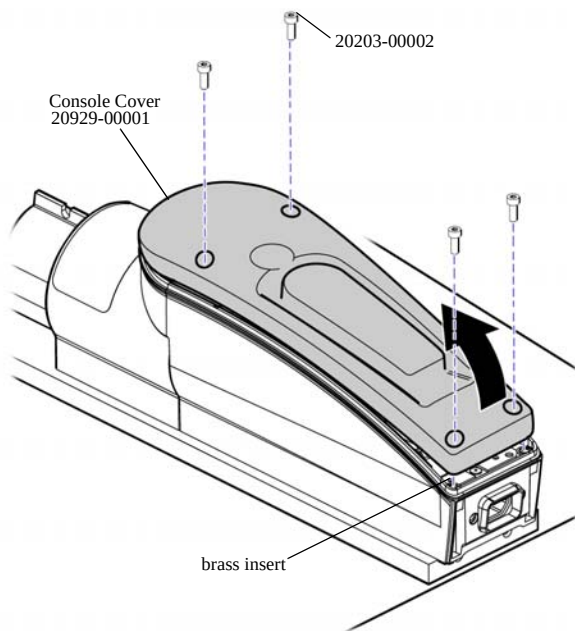

Figure 9-2: Remove or Install Console Cover
When the brass insert is damaged, the entire console must be replaced. See Figure 9-2.
3. Depending on revision, use T-20 or T-25 6-lobe wrench to remove (4) screws holding console cover to console housing. See Figure 9-2.